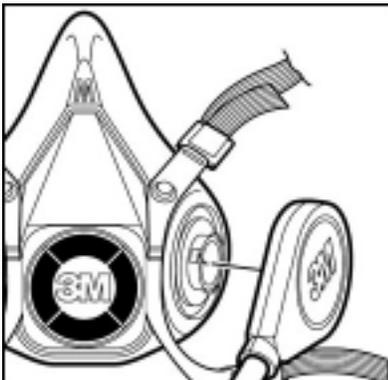

Fig. 6
1. Hold the facepiece in front of you so that the 3M logo is facing you. Align the two branches of the breathing tube over the two bayonet mounts on facepiece. For the 3M™ SA-1500 or SA-1600 Breathing Tubes, make sure that 3M logo on breathing tube and on half facepiece are both facing towards you. For 3M SA-2500 or SA-2600 Breathing Tubes, make sure that the 3M logo on breathing tube is facing in opposite direction to 3M logo on half facepieces. (Fig. 6) 3M SA-1500/SA-2500 shown.